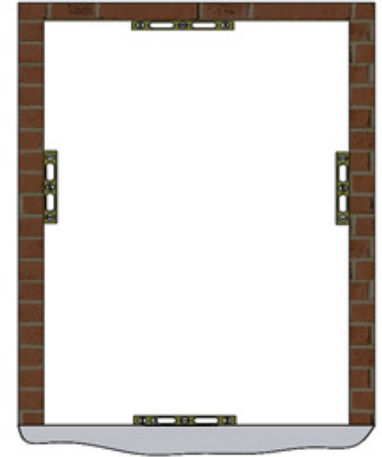

Figure 3:
- Verify the opening is plumb, square, and level (Figure 3).
- Place the Arche-Duct drain system into the opening and determine any leveling that must be done prior to installation (Figure 3). Prepare relief areas for the PVC drain flange(s).